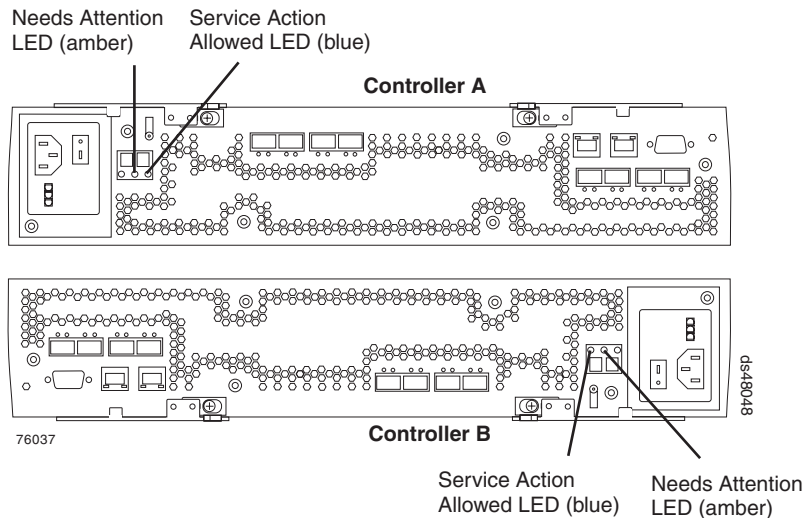

Figure 87. RAID controller Needs Attention and Service Action Allowed LEDs
2. Locate the failed controller by checking the Needs Attention status LEDs on the controllers in the storage subsystem. (Figure 87 on page 150 shows the location of the Needs Attention LED on the back of a controller.)
3. Is the Service Action Allowed status LED turned on? (Figure 87 shows the location of the Service Action Allowed status LED on the back of a controller.)